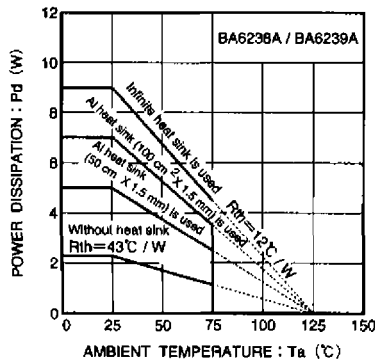

Fig.8 Power dissipation curves (BA6238A/BA6239A)
*1 Refer to the power dissipation characteristics (Fig. 8) for details.